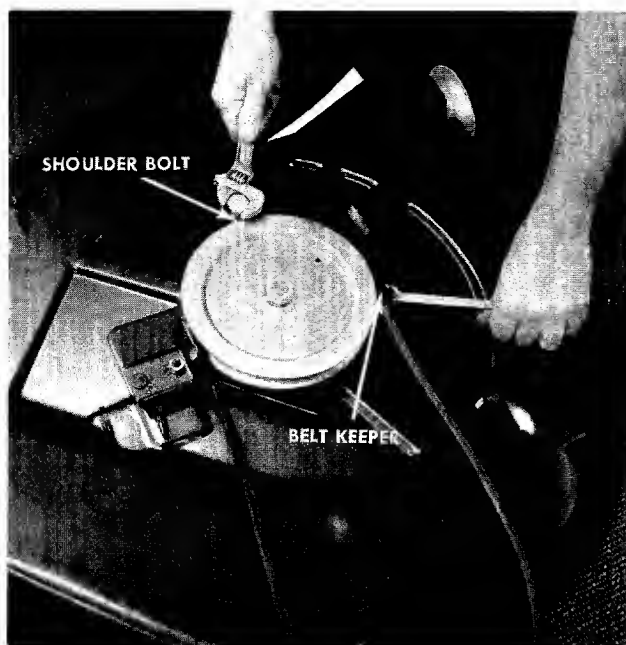

FIGURE 26. 25" DECK
- Step 8. **Removing the blade belt 25" models.** See figure 26.